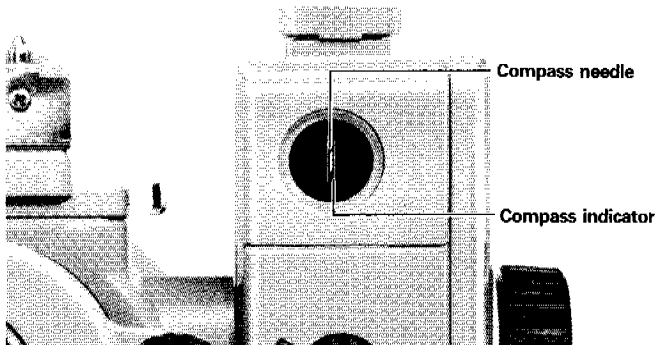

Fig. 30
4. Tighten the lower clamp screw. Turn the lower tangent screw so as to position the needle in the center of the two compass indicator lines (Fig. 30).